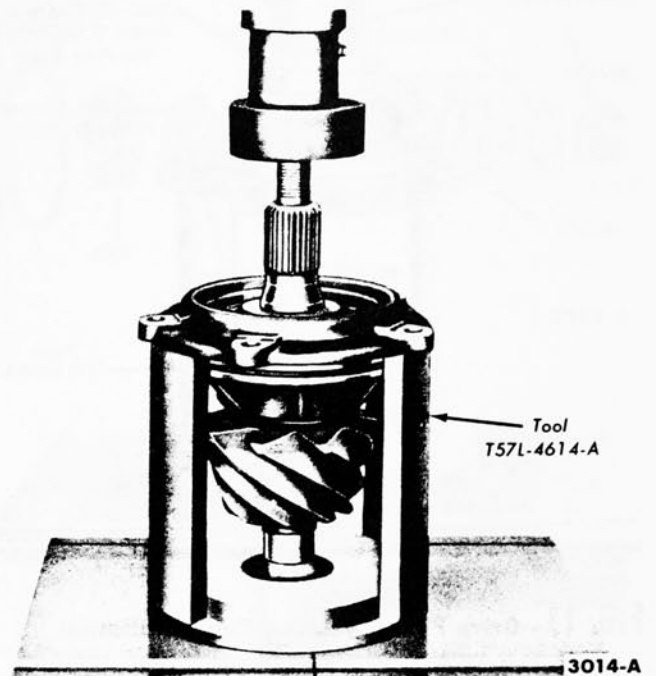

FIG. 14—Pinion Front Bearing Cone Removal
11. Place a protective sleeve (hose) on the pinion pilot bearing surface. Press the pinion shaft out of the pinion front bearing cone (Fig. 14).